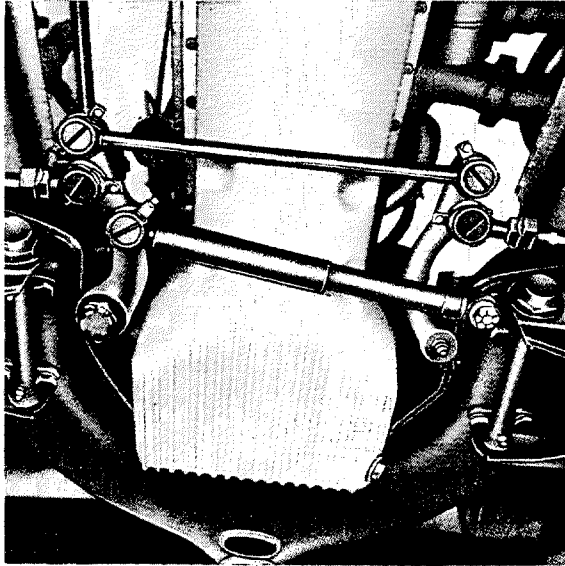

Fig. L 10/1
1. Unscrew the hexagon nut from the support bolt welded to the front axle support (Fig. L 10/1).